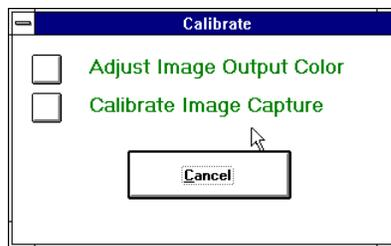

Figure 4-21. Calibrate Dialog Box
4. Choose the Calibration button to display the Calibrate dialog box (Figure 4-21).